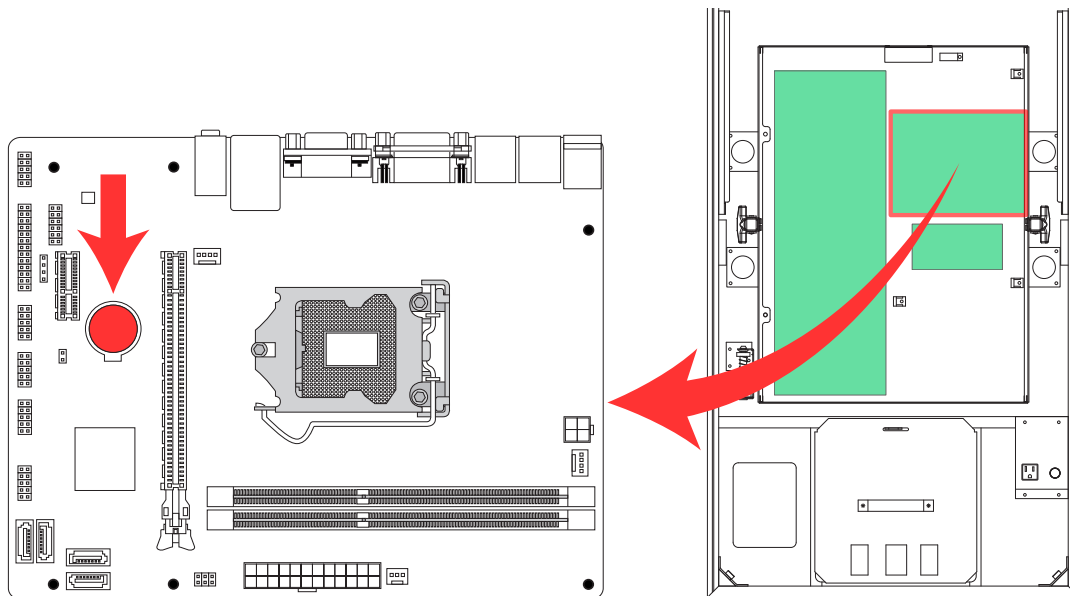

Figure E23. CPU board and battery locations (games manufactured before Oct 1, 2013).
- 4) Locate the CPU board (upper right corner of the PCB chassis), then the shiny, CR2032 coin cell battery & holder mounted on its surface (see figure E23 or E24). Note the orientation of the battery in its holder (with the battery label/imprint facing *outward*).